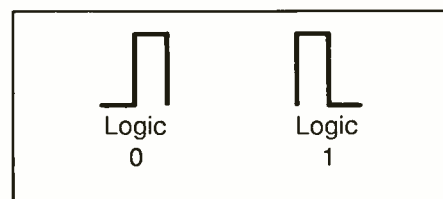

Fig. 3. Position of amplitude modulation for each bit of the word determines if bit is a 1 or a 0.
Fig. 3. Actual-size top (A) and bottom (B) etching-and-drilling guides for home fabrication of double-sided printed-circuit card on which project is to be wired.
nary weight of 2. The pulse train contains two additional bursts, called start bits, which precede the binary-coded word. In this pulse train, the position of the amplitude modulation for each bit of the word determines if the bit is a "1" or a "0," as in Fig. 3. A bit with a value of 1 is transmitted with the infrared burst occupying the first half of the allot-